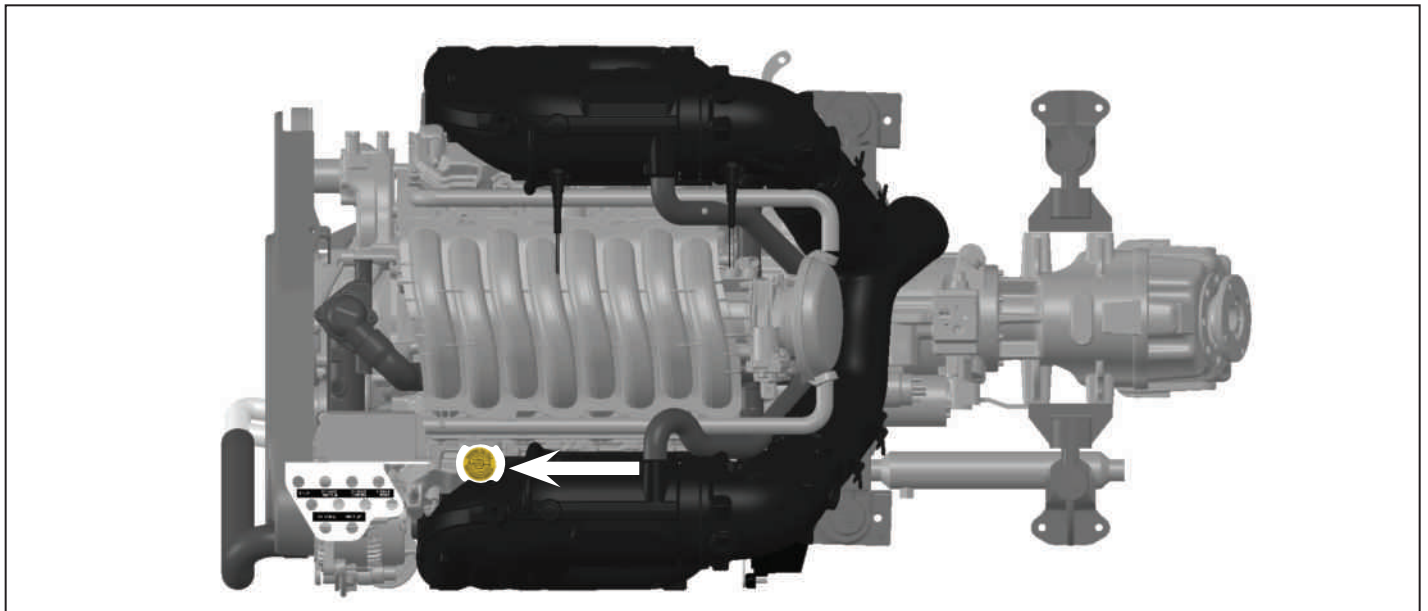

Figure 11-22 Engine Oil Fill
4. Fill the engine with the recommended oil and quantity, through the oil fill location on the valve cover (Figure 11-22). See **OIL REQUIREMENTS** and **ENGINE FLUID CAPACITIES**.